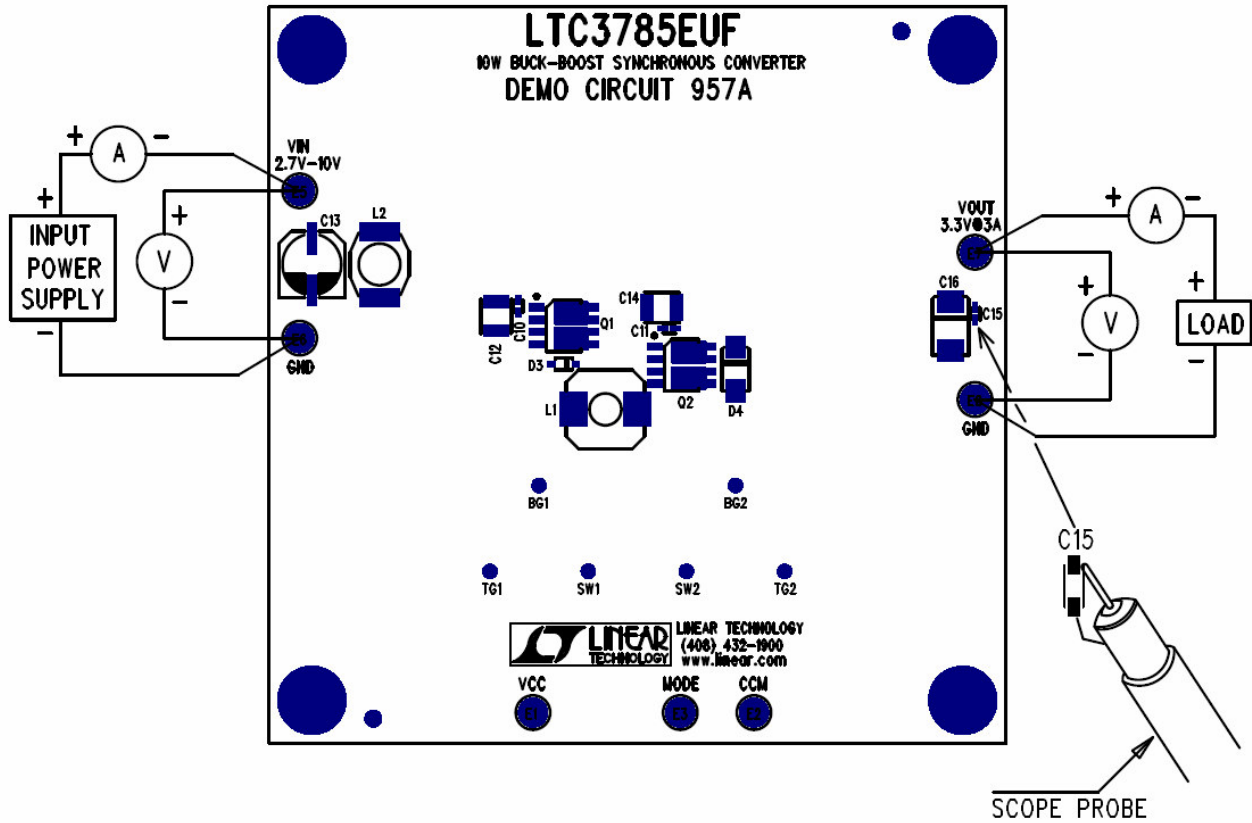

Figure 1. Proper Measurement Equipment Setup
Demonstration circuit 957 is easy to set up to evaluate the performance of the LTC3785. Refer to Figure 1 for proper measurement equipment setup and follow the procedure below:
**NOTE.** When measuring the output voltage ripple, care must be taken to avoid a long ground lead on the oscilloscope probe. Measure the output voltage ripple by touching the probe tip and ground ring directly across the last output capacitor (C15) as shown in Figure 1.